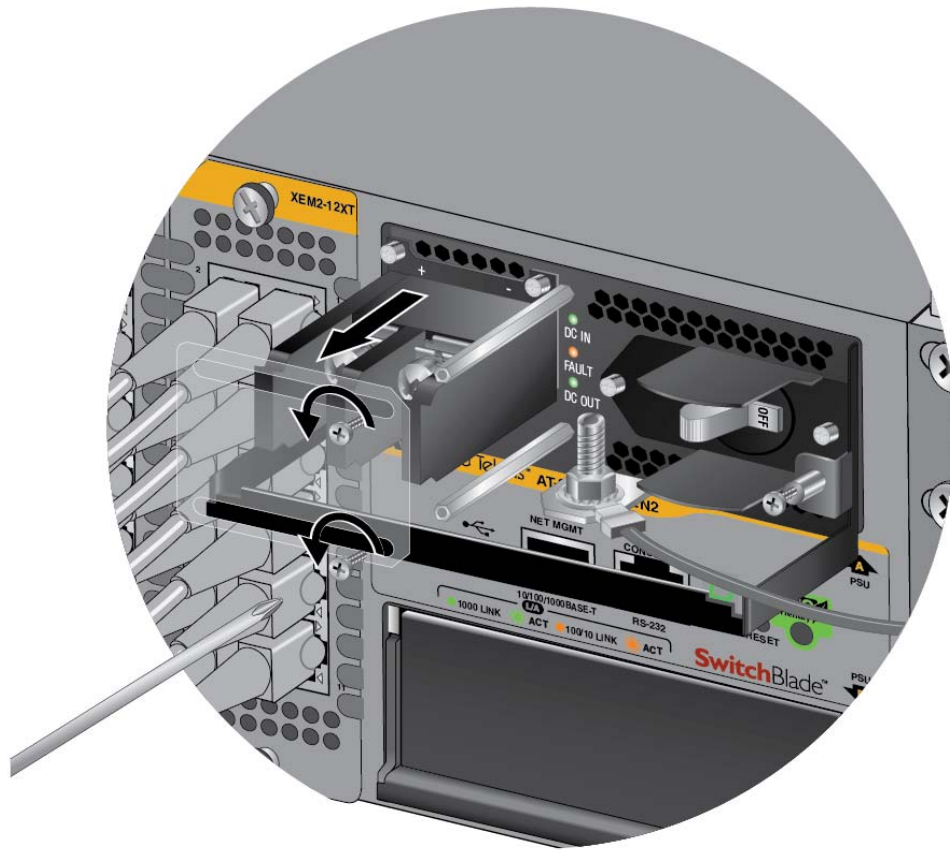

Figure 72. Removing the Plastic Cover
4. Using a #1 Phillips-head screwdriver, remove the two screws that secure the plastic cover over the positive and negative terminals and remove the plastic cover from the power supply, as shown in Figure 72 on page 102. You may need to lift the locking handle slightly to access the bottom screw.